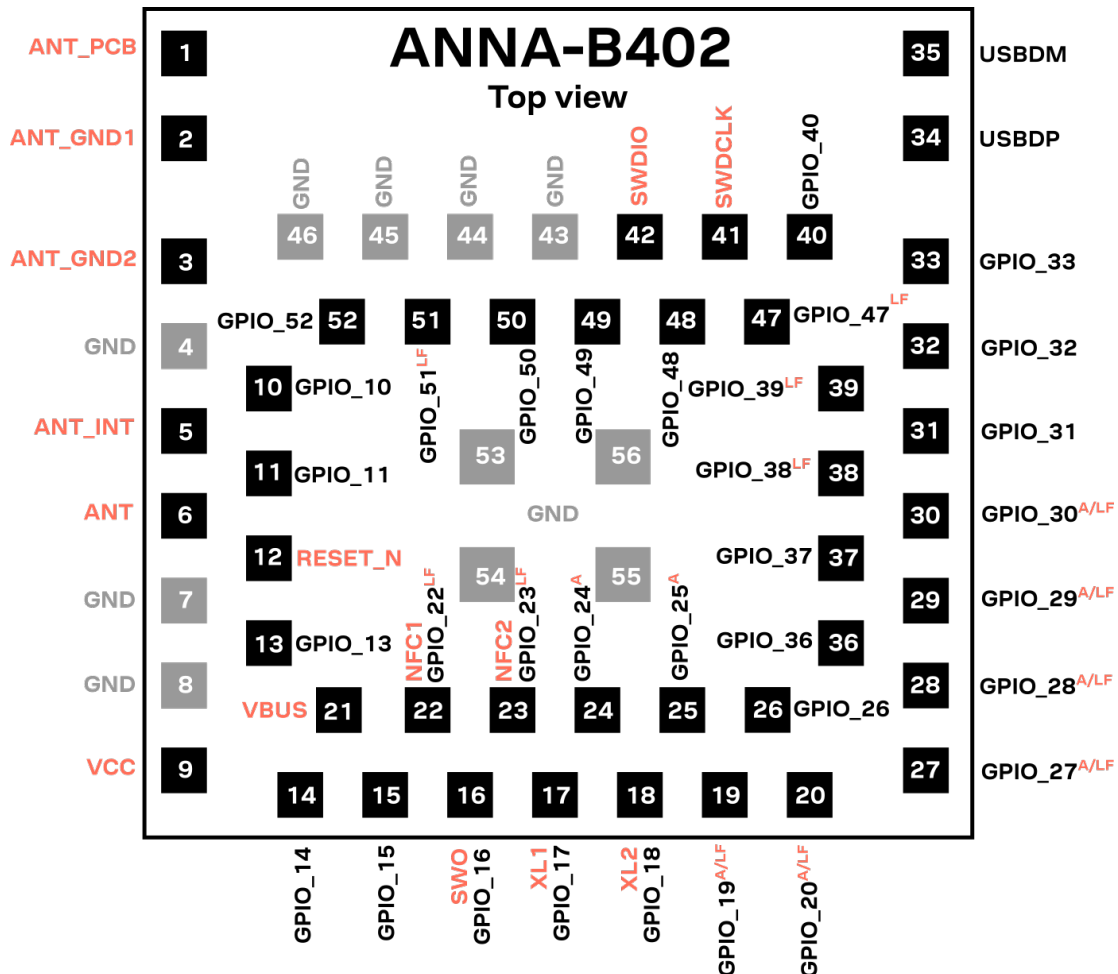

Figure 3: ANNA-B402 pin assignment (top view)
Figure 3 shows the ANNA-B402 pin-out in an unconfigured state, where:
- GND pins are shown in gray in Figure 3.